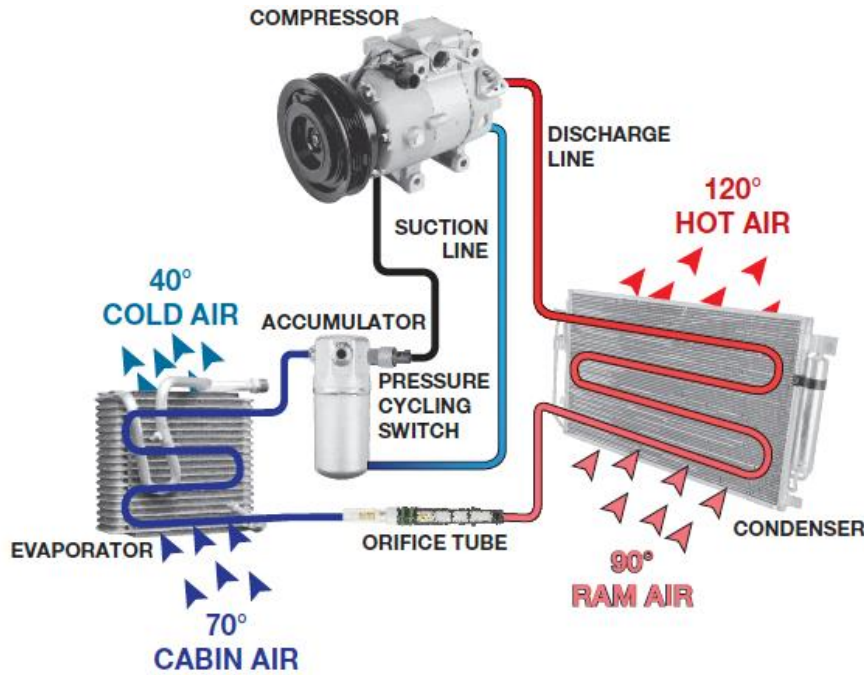

Figure 24. An OT-type refrigeration system.
An accumulator is located in the low side of an orifice tube (OT) system. It prevents liquid refrigerant from passing to the compressor and contains a desiccant, which helps remove moisture from the system. It also holds a reserve of refrigerant. Figure 24.